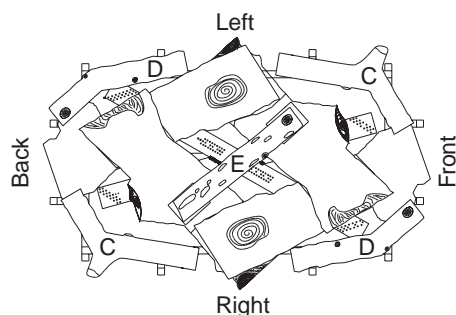

Figure 46 - Installing Twigs "C, D, E" (Top View)
10. Take twigs "C" (shaped like a "Y") and place them as shown in Figure 46, page 19.
11. Take twigs "D" (bent twig) and place them as shown in Figure 46, page 19.
12. Place twig "E" across the top of logs "B" as shown in Figure 46, page 19.
13. When finished installing the logs, close the glass doors while making certain that the safety door switch is fully depressed by the door frame before securing the four (4) spring loaded latches.